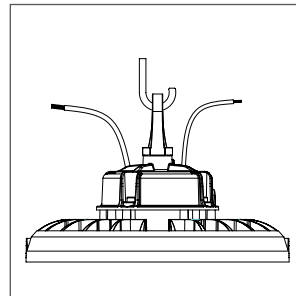

FIGURE 4
- B) Tighten the screw on the side. (FIGURE 4)
- C) Hang fixture. (FIGURE 4)